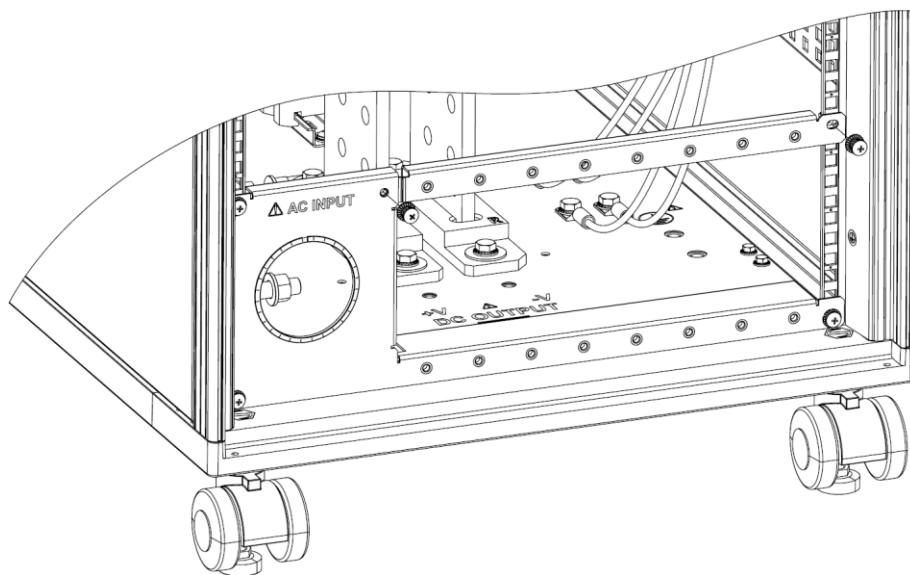

Figure 4-7: Rear Panel Disassembly
3. Disassemble the beam to allow easy access into the cabinet as shown in Figure 4-7.